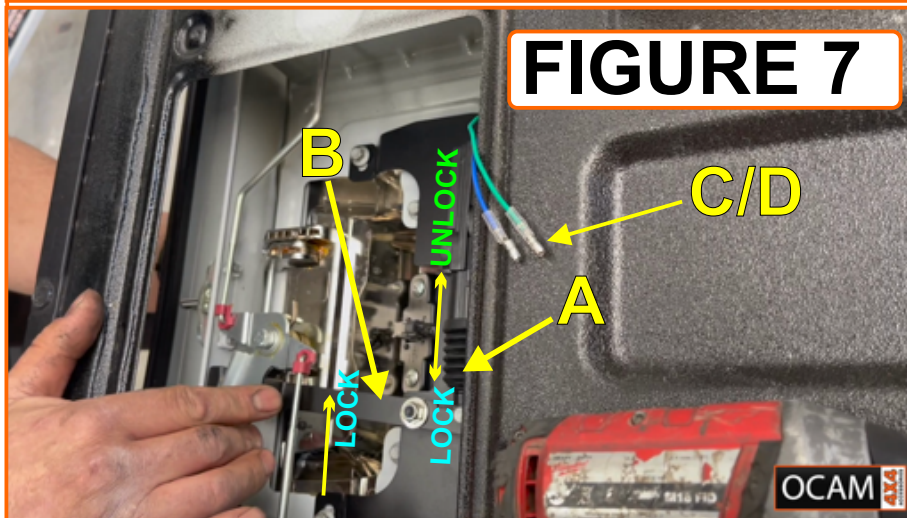

FIGURE 7
Step 6. Place electric lock mounting plate in position as shown in **figure 7** and replace 8mm bolts.
Only tighten bolts finger tight until correct operation of locking lever is confirmed. To check the correct operation move the electric solenoid operating rod (**A**) attached to the locking arm (**B**) to ensure that the locking arm moves freely. (**NB: figure 7** shows the locking lever in the locked position). There should be clearance between the locking arm and the tail gate latch arm. When satisfied that the lock is in the correct position, tighten the two 8mm retaining bolts. **Do not over tighten the bolts** as this can result in damage to the threads. replace the right hand actuation rod into the retainer and close the clip.
Step 7. Unroll the wiring harness that came with the kit and firmly plug the green and blue sockets onto the respective green and blue wires marked as **C/D in figure 7**.